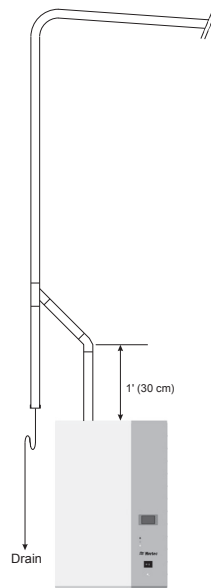

Figure 11: Condensate traps in large vertical runs from humidifier.
6. For applications with long vertical steam runs out of the humidifier, a full size condensate trap should be installed along the vertical run to catch the condensate load rather than have it all flow directly back to the humidifier reservoir. See Figure 11 for an example.